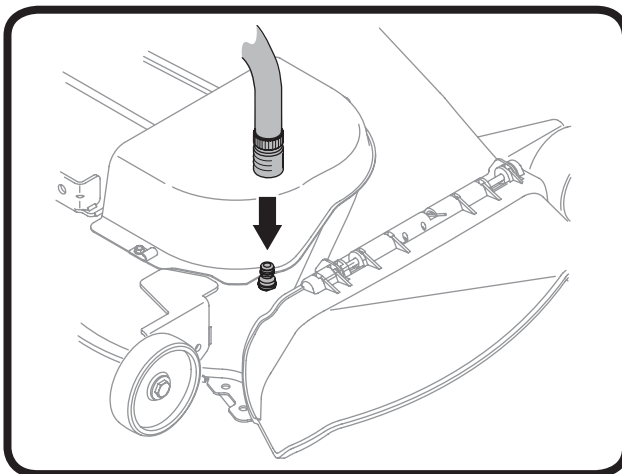

Figure 8.3
5. Attach the hose with the quick connect coupling to the deck. See Figure 8.3.